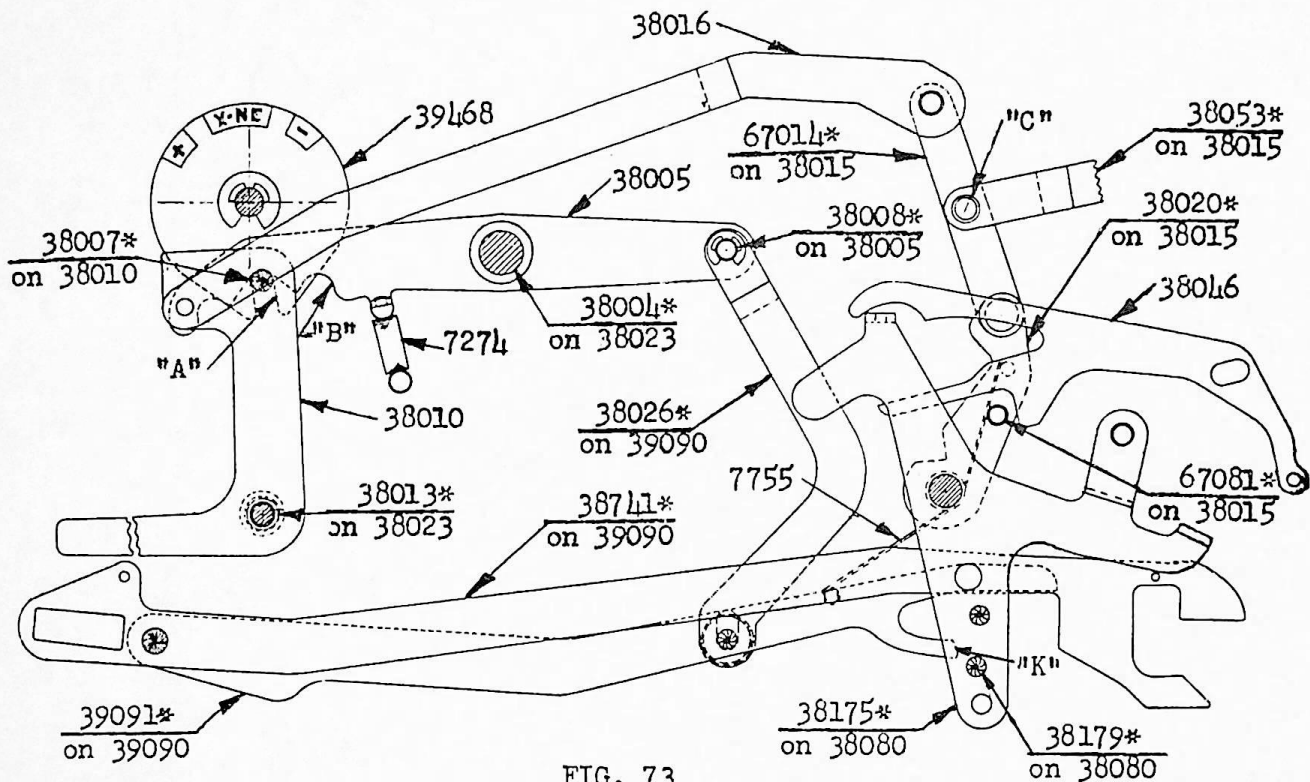

FIG. 73
2. (Fig. 73). The Counter Control Knob-39468 has a slot "A" which moves Stud-38007* on the Counter Control Sector-38010 to one of
1. (Fig. 73). In division the Knob positions "X-NE" and "-" are to be used for additions or subtractions of quotients ($\frac{a}{b} \pm \frac{c}{d}$), and the normal Upper Dial clearance prior to division must therefore be